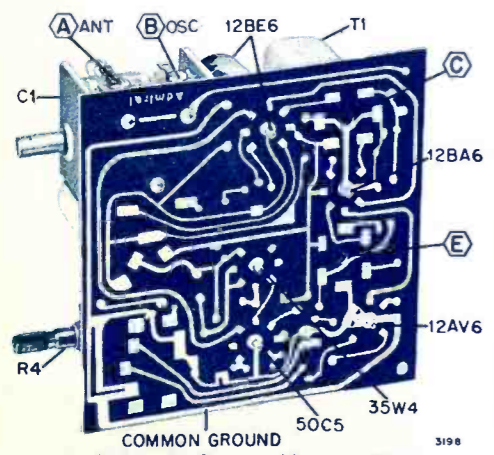

Figure 1. Bottom View of Chassis.
*Adjustments B and D are made from underside of chassis. See figure 1. To avoid splitting the slotted head of powdered iron tuning slug in IF transformers, use an alignment tool with a blade 3/32" wide.
The printed circuit wiring used in this receiver results in greater uniformity of chassis wiring and component placement, simplified circuit tracing (see figure 1) and greater component accessibility. The printed circuit wiring is permanently bonded to the plastic chassis board. This board is translucent. If a light source is directed on the bottom of the chassis board, the printed wiring will be silhouetted through the board and component location for circuit tracing will be facilitated.